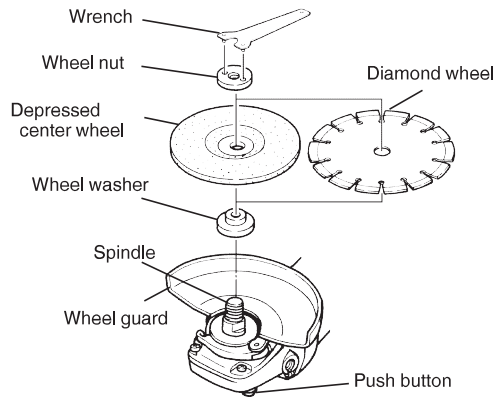

Fig. 3
Confirm that the push button is disengaged by pushing push button two or three times before switching the power tool on (See Fig. 3).
ASSEMBLING AND DISASSEMBLING THE DEPRESSED CENTER WHEEL (Fig. 3)
1. Assembling (Fig. 3)
- (1) Turn the disc grinder upsidedown so that the spindle is facing upward.
- (2) Align the across flats of the wheel washer with the notched part of the spindle, then attach them.
- (3) Fit the protuberance of the depressed center wheel onto the wheel washer.
- (4) Screw the wheel nut onto the spindle.
- (5) While pushing the push button with one hand, lock the spindle by turning the depressed center wheel slowly with the other hand.
- Tighten the wheel nut by using the supplied wrench as shown in **Fig. 3**.